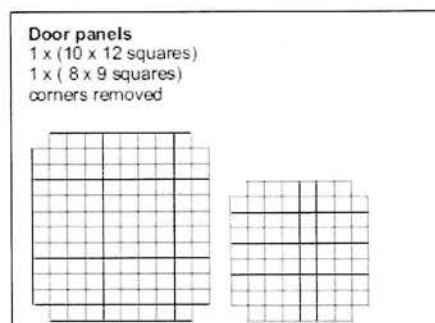

FIGURE 10: DOOR PLANS
1. Bend body (10 x 9) into a gentle "U" shape. Tie top at a,b and c,d ,using end wires, to form a slight funnel (see figure 10).